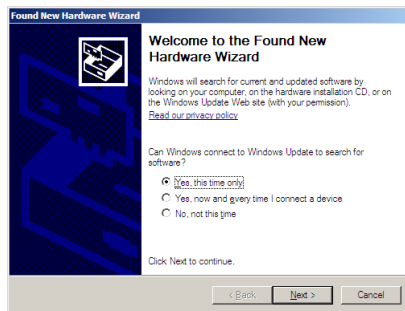

Figure 1
- (1) Insert the installation CD and connect the DS-1000 with your PC.
- (2) Enter the hardware wizard when the Windows OS find an USB device (Figure 1) and check “yes. This time only”.